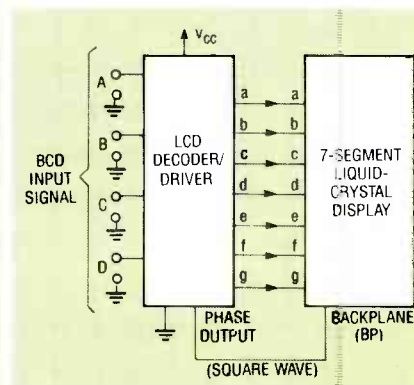

FIG. 25—HERE'S HOW to drive a liquid-crystal display (LCD).
Figures 23 and 24 show how to drive common-anode and cathode 7-segment LED displays. Note that if the BCD-to-7-segment LED-display decoder/driver IC outputs are unprotected, as is the case in most TTL IC's, a resistor in series with each segment limits current; most CMOS IC's have such resistors internally. In Fig. 25 you can see how to drive an LCD. The common or backplane (BP) display terminal is driven with a symmetric square-wave, which is derived from the phase output terminal.